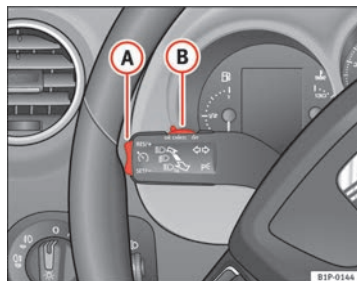

Fig. 132 Turn signal and main beam headlight lever; switch and rocker switch for the cruise control
- Press the lower part **SET/SET** of the rocker switch ⇒ fig. 132 **A** once briefly when you have reached the speed you wish to set.